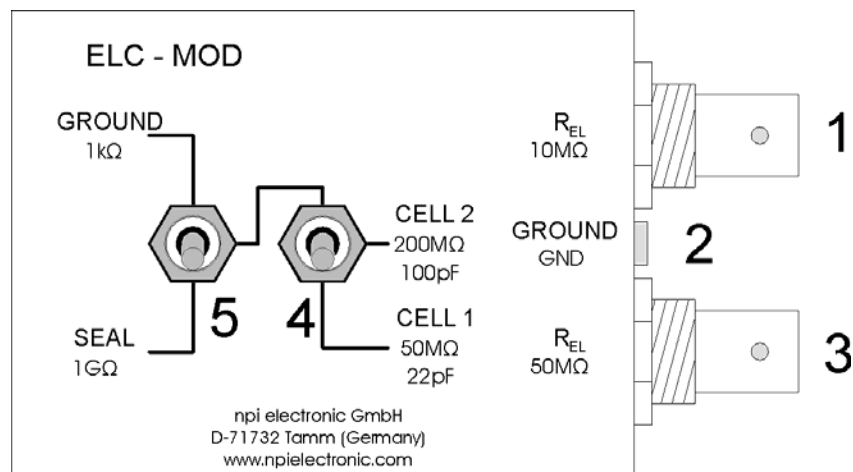

Figure 7: passive cell model
- Set switch #4, Figure 7 to the lower position.
- Set switch #5, Figure 7 to GROUND position. The 1 k Ω resistor simulates the resistance of the bath solution. This can be used to train cancellation of offsets, using the bridge balance and using the capacity compensation.
- Set switch #5, Figure 7 to SEAL position. The 1 G Ω resistor simulates the SEAL resistance when forming a GIGASEAL in patch clamp experiments.
Intracellular recordings can be mimicked with one of two cells with different properties. Use the 50 M Ω electrode connector (#1, Figure 7) for an experiment with sharp electrodes or the 10 M Ω electrode connector (#3, Figure 7) for simulating an experiment with patch electrodes.
- Switch the CELL membrane switch (see #4, Figure 7) to the desired position (CELL 1 or CELL 2).
- Connect the MICROELECTRODE connector of the headstage to ground. If parasitic oscillations occur use a 10 k Ω resistor for grounding. If you use the cell model set #5 in Figure 7 to GROUND and #4 in upper position.